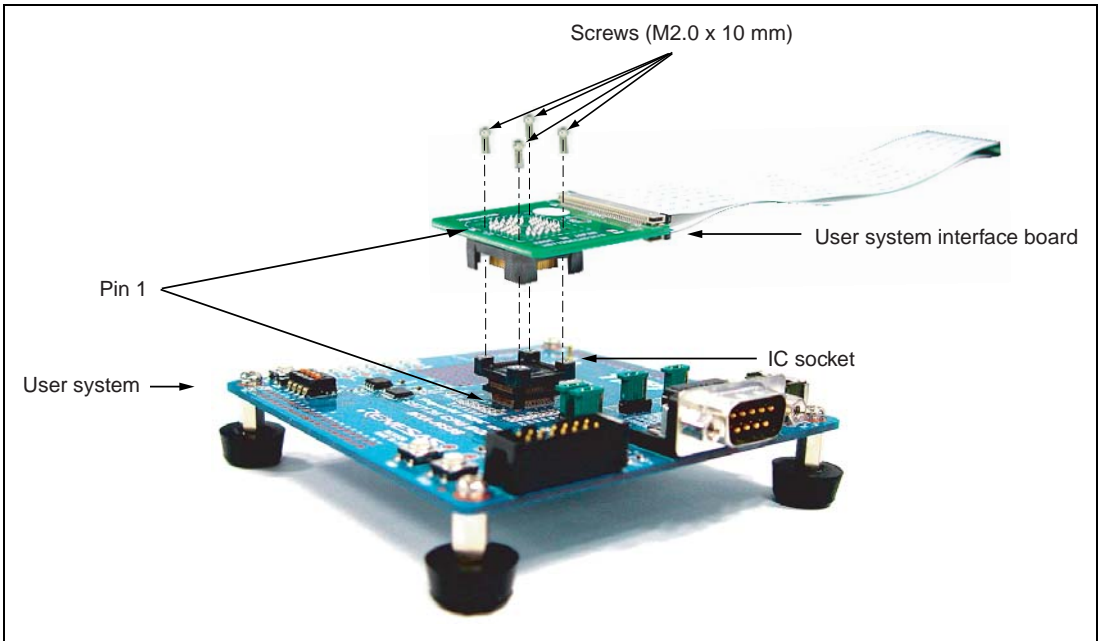

Figure 2.5 Connecting the User System Interface Board to the User System
- Align pin 1 on the IC socket on the user system with pin 1 on the user system interface board, and plug the user system connector of the interface board into the IC socket on the user system, as is shown in figure 2.5.